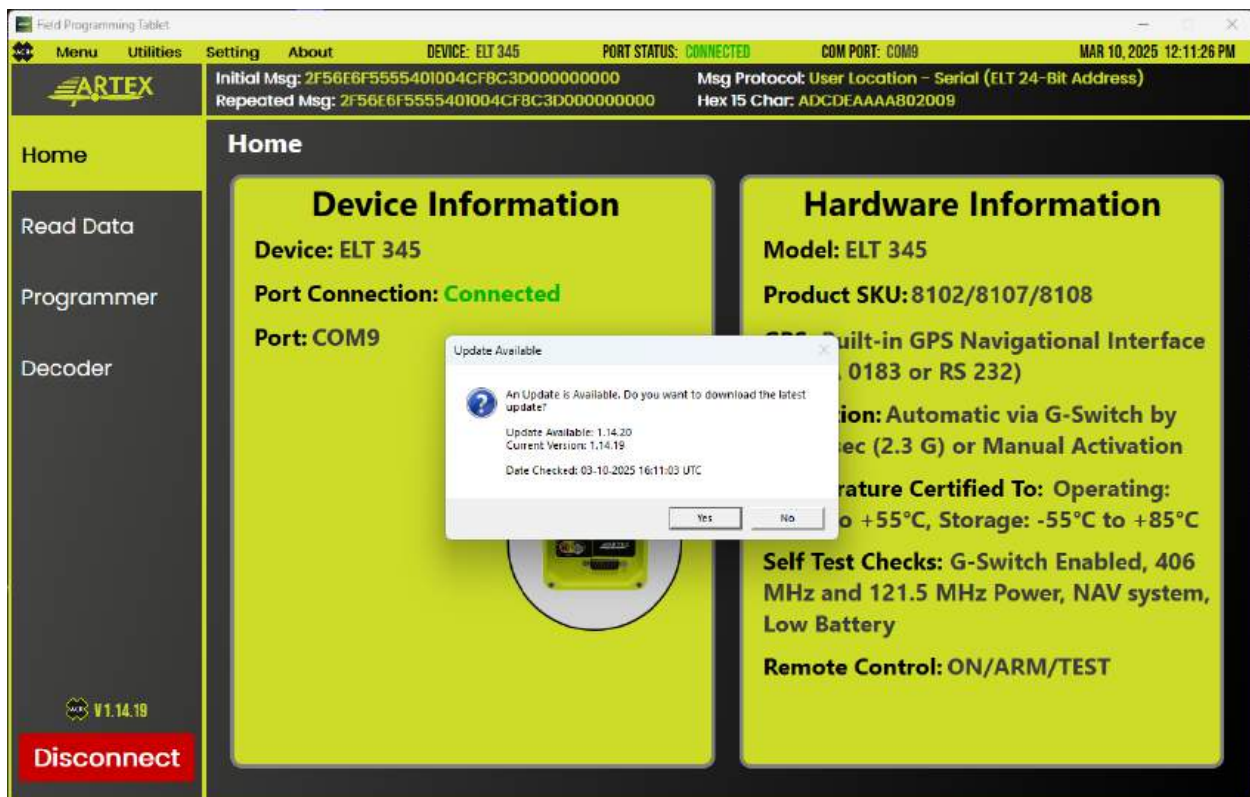

Figure 25 - FPT Updater
3. If an update is found, a popup displays (Figure 25) prompting the user if they want to continue with the update.